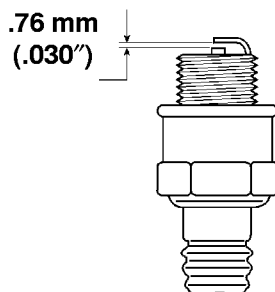

Figure 23
3. Set air gap between electrodes at .76 mm (0.030") (Fig. 23). Install the correctly gapped spark plug with gasket and tighten plug to 15 ft-lb (20 N·m). If torque wrench is not used, tighten plug firmly.